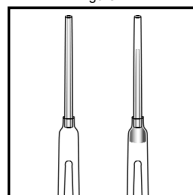

Figure 3
5. **Required for R-6001D only:** Pull the VACUette into a vertical position. A small portion of the collected sample should fall into the sleeve of the VACUette tip (fig. 3).